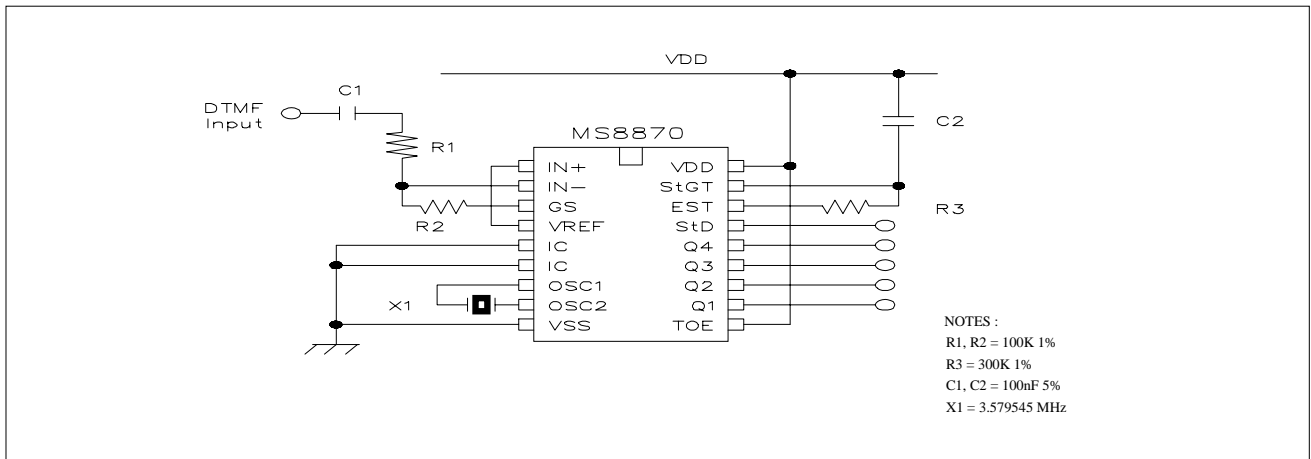
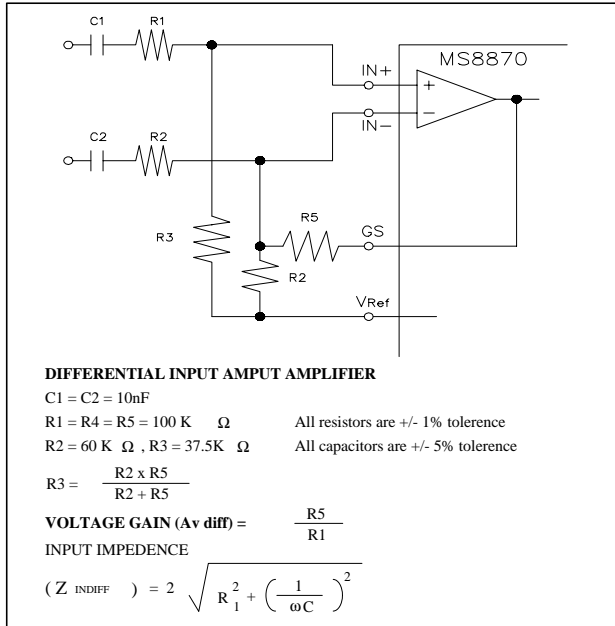

Figure 2. Single Ended Input Configuration
Figure 8. Differential Input Configuration
\* All voltages referenced to Vss unless otherwise noted. Vcc = 5.0V, Vss = 0V, TA = 25°C, Fc = 3.579545 MHz, using test circuit shown in Figure 2
The input arrangement of the MS8870 provides a differential-input operational amplifier as well as a bias source ( $V_{\text{Ref}}$ ) which is used to bias the inputs at mid-rail. Provision is made for connection of a feedback resistor to the op-amp output (GS) for adjustment of gain. In a single-ended configuration, the input pins are connected as shown in Fig. 2 with the op-amp connected for unity gain and  $V_{\text{Ref}}$  biasing the input at  $\frac{1}{2}V_{\text{DD}}$ . Fig. 8 shows the differential configuration, which permits the adjustment of gain with the feedback resistor  $R5$ .